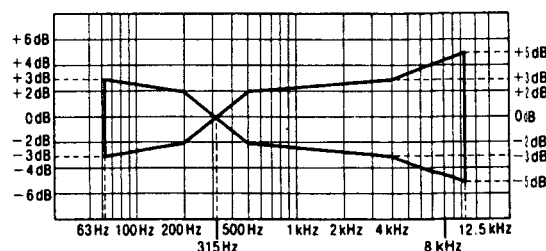

Fig. 8
2. Assure that the frequency response is within the range shown in Fig. 8 for both L-CH and R-CH.